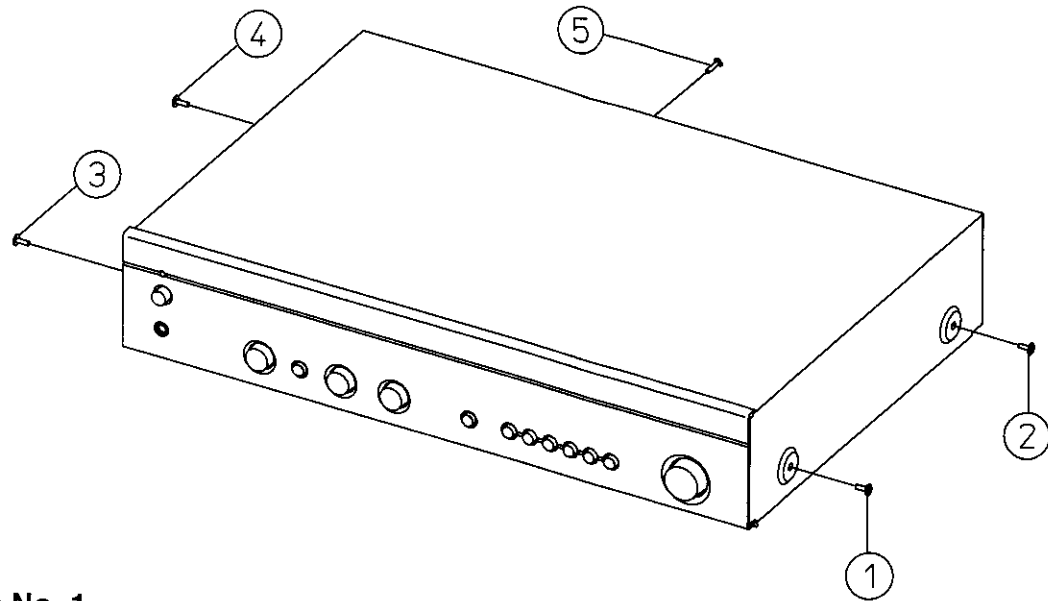

Figure No. 1.
1. Remove machine screws M4.0 x 6.0 (① to ④) from the side panels. Remove tapping screw 3.0 x 8.0 (⑤) from the back panel. Refer to **Figure No. 1**.